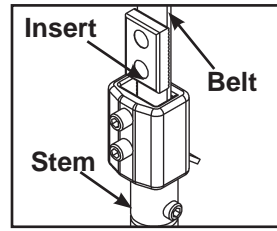
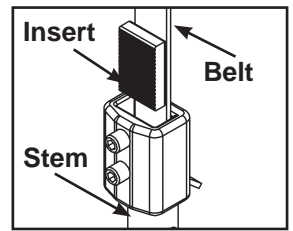

Figure 2A
Figure 2B
- D. Verify belt and insert are installed properly, as shown in Figure 2A. **NOTE:** Do not install the insert backwards as shown in Figure 2B.